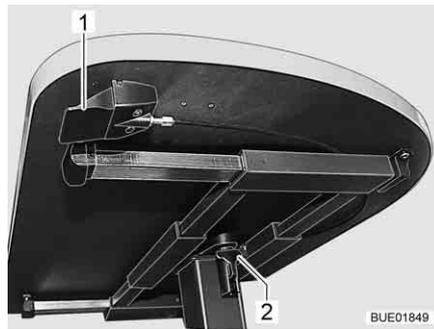

Fig. 100 Adjustment of lift-off table
- Fold down the catch lever (Fig. 100,2).
- Press up the lever (Fig. 100,1) under the table top. The lifting mechanism in the table leg is unlocked.
- Press up the lever (Fig. 100,1) under the table top. The table top moves upwards to the limit stop.